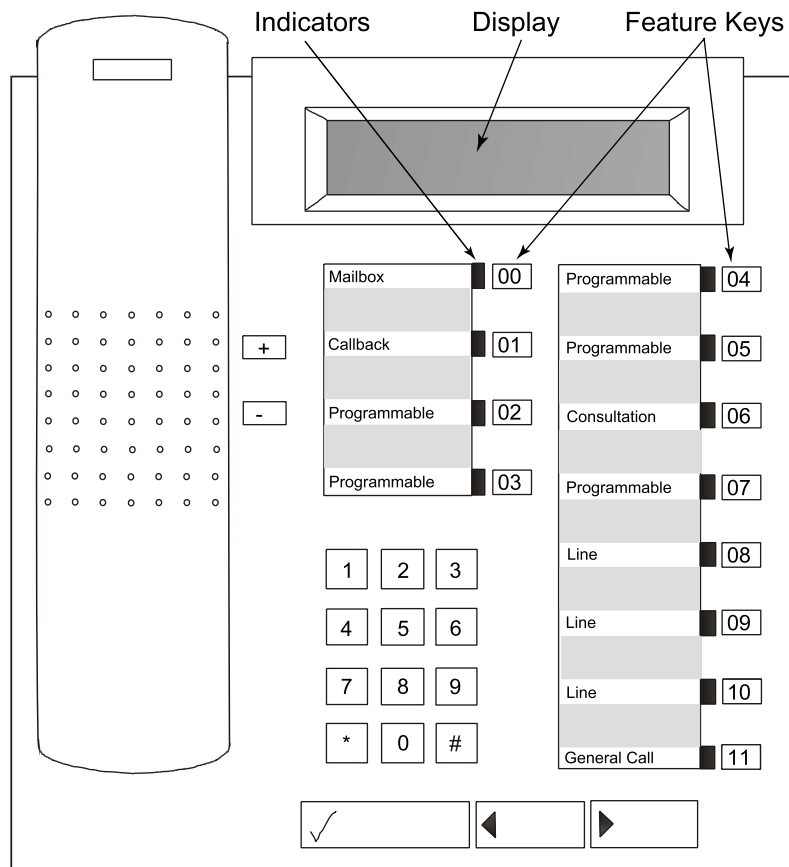
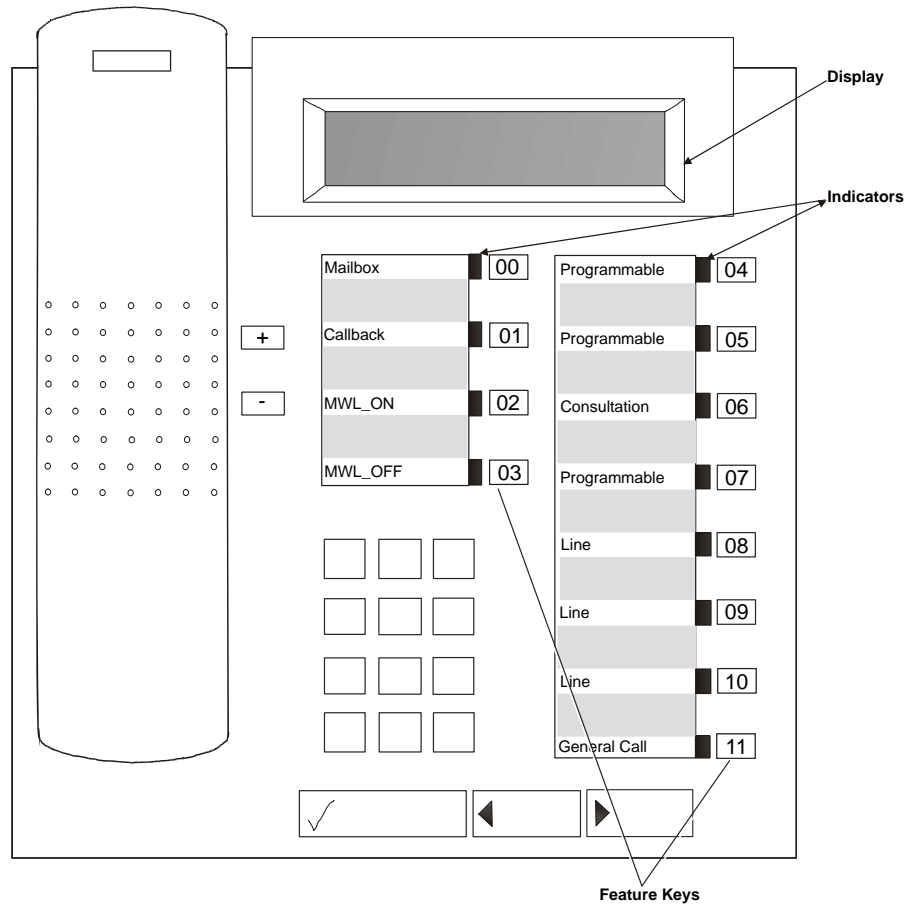

Figure 5. Siemens Optiset E Telephone with the Hicom 150
Figure 6. Siemens Optiset E Telephone with the Hicom 300
If the Hicom 150 is used with Optiset E phones (see Figure 5), special PBX programming is required. The keys should be programmed as shown in Figure 5. If these keys are not programmed in this way, loop current detection, CPID, the & (transfer) key, and message waiting do not work.
If the Hicom 300 is used with Optiset E phones (see Figure 6), the top two programmable keys (Key 00 and 01) on the left must be programmed as Mailbox and Callback, respectively. Key 02 must be configured to dial the **message waiting lamp on** (MWL_ON) string. Key 03 must be configured to dial the **message waiting lamp off** (MWL_OFF) string. This programming allows an application to use the specified dial string to turn the MWL on and off. In addition, Key 07 must be programmed as the Consultation (transfer) key. Keys 08-12 must be programmed as Line keys, with Key 12 programmed
as the General Call Key, which provides the off-hook indicator. Refer to Figure 6 and Table 12 for specific Key locations and set-up requirements.
7. Press Key 02 (third from the top left, see Figure 6 below) to set the dial string for MWL_ON.
The Dialogic® PBX Integration Board performs functions available to an Optiset E telephone set (see Figure 5 and Figure 6). An Optiset E telephone set uses an LED display to show key status (next to the keys) and user
As illustrated in *Figure 5* and *Figure 6*, there are 12 Programmable Feature Keys located below the display on the Optiset E telephone. These keys can be configured either during PBX installation or by the user (using the telephone set or the Dialogic® PBX Integration Board). There is an LED indicator